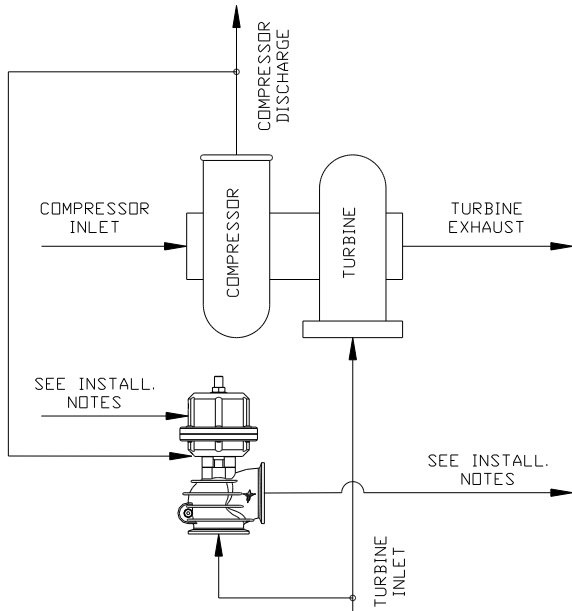

Figure 1:
2. The **NewGen Performance Wastegate** may be installed anywhere between the engine exhaust and the turbine inlet of the turbocharger (refer to Figure 1), preferably near the header collector. The **NewGen** may be mounted in any orientation that is convenient, but care should be taken to insure that the actuator section is NOT exposed to extreme heat (if selected location places the actuator section close to a severe heat source, the use of a heat shield is recommended). Determine the routing of the **NewGen** exhaust so that it either exits away to the side or rear of the vehicle, or reconnects with the turbine exhaust discharge. NOTE: Federal and state laws require that all vehicle exhaust must exit away from the passenger compartment. The exhaust must be connected to the vehicle exhaust system or routed to the outside of the vehicle away from passenger compartment.
5. Refer to the sensing line schematic shown in Figure 1. A minimum sensing line size of 1/8" ID is recommended for proper response. **NewGen** sensing line ports are 1/8" FPT. Use Teflon tape on all fitting pipe threads. Sensing line material should be suitable for automotive under-hood environment, and compatible with gasoline vapor. Care should be taken in routing sensing lines to preclude damage from any sharp edges or excessive temperatures.